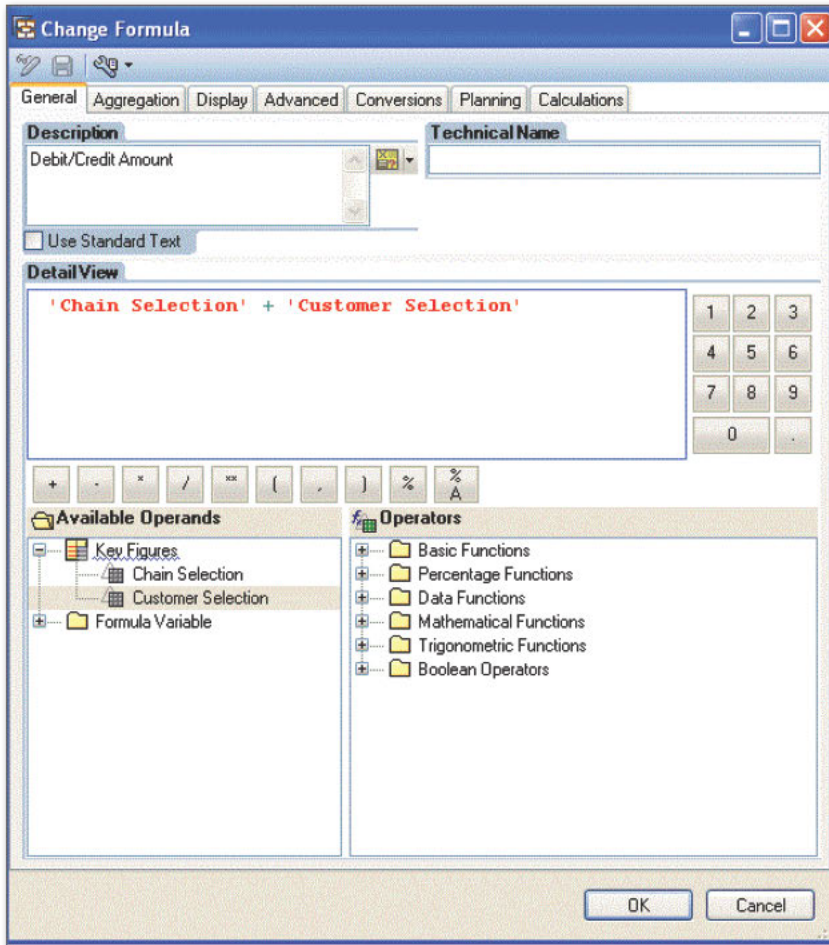

Figure 4 Create Calculated Key Figure with Both Restricted Key Figures
6. Click and drag the newly created restricted key figures to the DETAIL VIEW, and append a + sign (e.g., 'CHAIN SELECTION' + 'CUSTOMER SELECTION') as shown in Figure 4. Enter "Debit/Credit Amount" in the DESCRIPTION field.